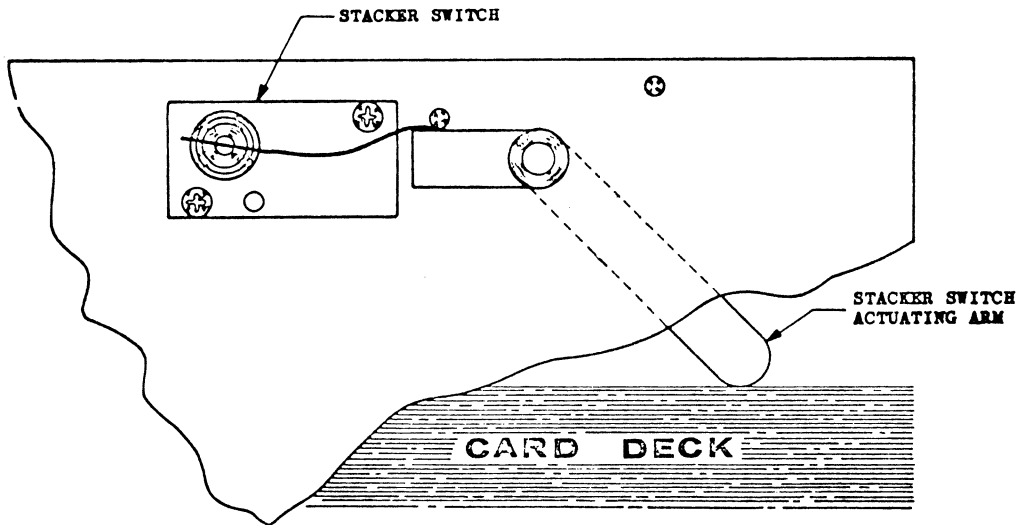

Figure 4-11. Stacker Stop Actuator
7. STACKER STOP ACTUATOR (figure 4-11)